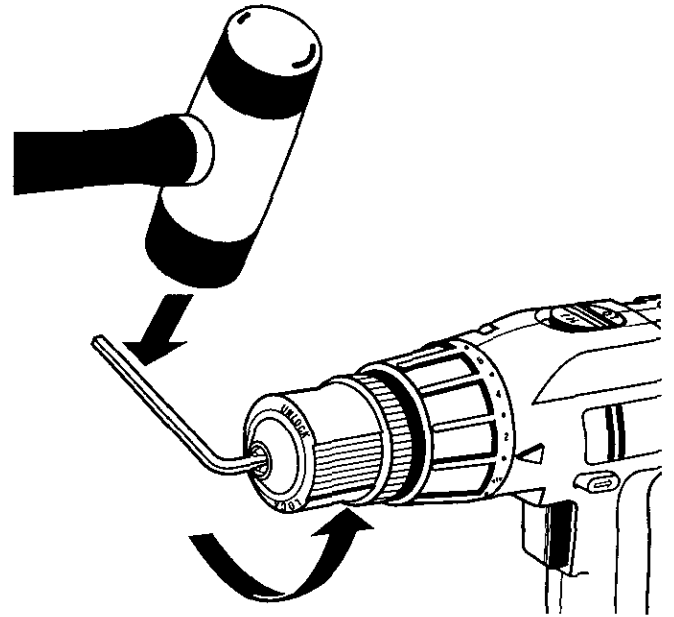

Fig. 16
- Insert hex key wrench in chuck and tighten chuck jaws securely. Tap sharply with a mallet in a counterclockwise direction. This will loosen chuck on the spindle. It can now be unscrewed by hand. See Figure 16.